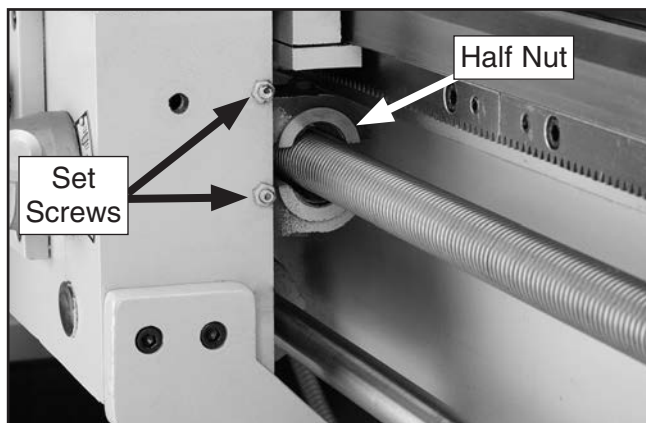

Figure 110. Half nut gib set screws.
3. Loosen hex nuts on set screws shown in **Figure 110**.